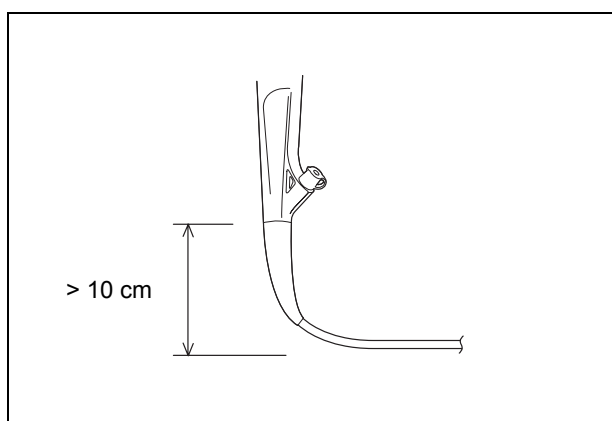

Figure 4.2
- Do not allow the insertion tube to be bent within a distance of 10 cm or less from the junction of the boot. Insertion tube damage can occur (see Figures 4.2 and 4.3).